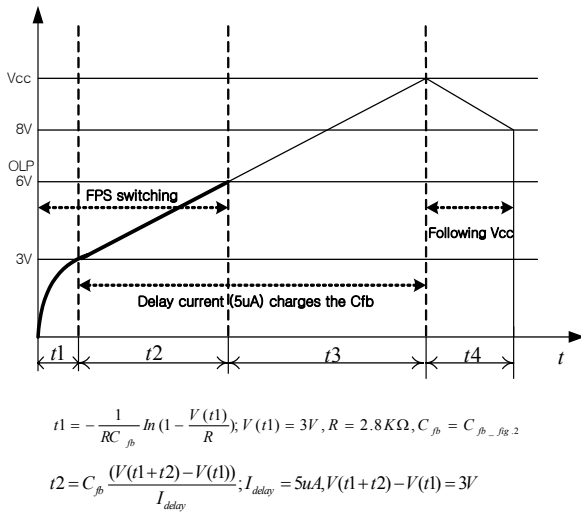

Figure 6. Over load protection
4.1 Over Load Protection (OLP) : Overload is defined as the load current exceeding a pre-set level due to an unexpected event. In this situation, the protection circuit should be activated in order to protect the SMPS. However, even when the SMPS is in the normal operation, the over load protection circuit can be activated during the load transition. In order to avoid this undesired operation, the over load protection circuit is designed to be activated after a specified time to determine whether it is a transient situation or an overload situation. In conjunction with the I_{pk} current limit pin (if used) the current mode feedback path would limit the current in the Sense FET when the maximum PWM duty cycle is attained. If the output consumes more than this maximum power, the output voltage (V_o) decreases below the set voltage. This reduces the current through the opto-coupler LED, which also reduces the opto-coupler transistor current, thus increasing the feedback voltage (V_{fb}). If V_{fb} exceeds 3V, the feedback input diode is blocked and the 5uA Idelay current source starts to charge C_{fb} slowly up to V_{cc} . In this condition, V_{fb} continues increasing until it reaches 6V, when the switching operation is terminated as shown in figure 6. The delay time for shutdown is the time required to charge C_{fb} from 3V to 6V with 5uA.